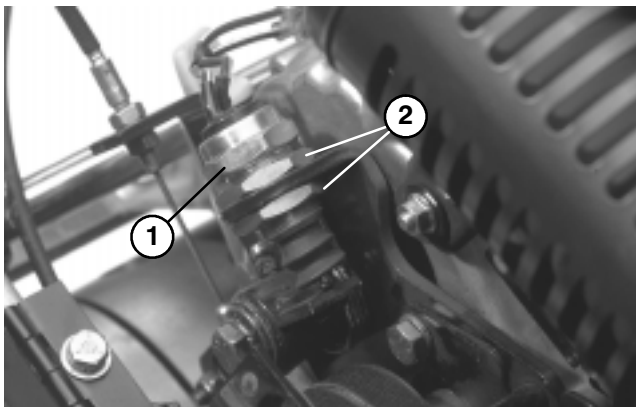

Figure 43
2. Loosen (2) switch mounting nuts (Fig. 43) and move switch until switch plunger is depressed $.18 \pm .06$ " (switch closed).